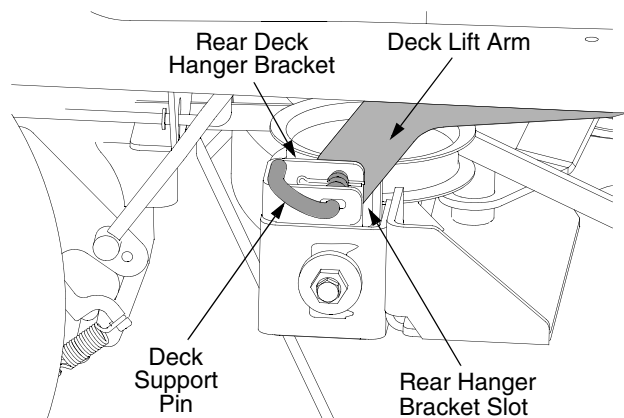

Figure 29
5. Locate the LH and RH deck support pins on each side of the deck. Pull the deck support pins outward and lock in the disengaged position to release the deck from the tractor's LH and RH deck lift arms. See Figure 29.
4. Maneuver the deck so that the slots in the two rear deck hanger brackets approximately align with the deck lift arms of the tractor. Refer to Figure 29.
6. Pull the deck support pins outward and maneuver the deck as necessary to align the holes in the deck lift arm with the pins. Refer to Figure 29.